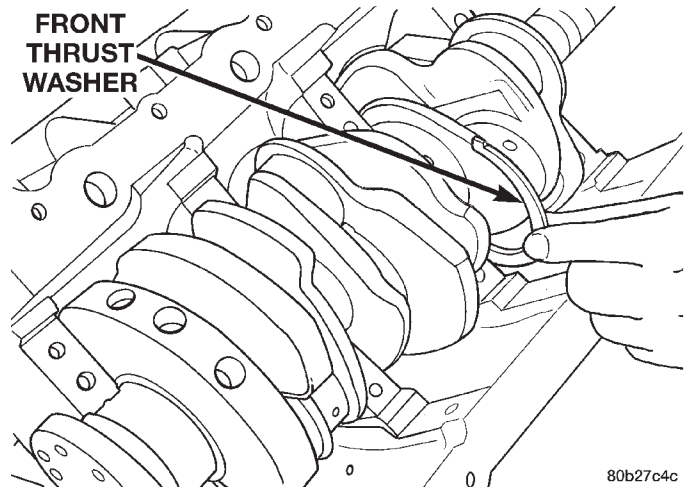

Fig. 89 Thrust Washer Installation
- (4) Lubricate and install lower bearing half and main cap. Tighten bolts finger tight.
- (5) For installing thrust washers at the No. 2 main bearing location, use the following procedure:
- (a) Move crankshaft forward to limit of travel. Lubricate and install the front thrust washer by rolling the washer onto the machined shelf between the No. 2 upper main bulk head and crankshaft thrust surface (Fig. 89).